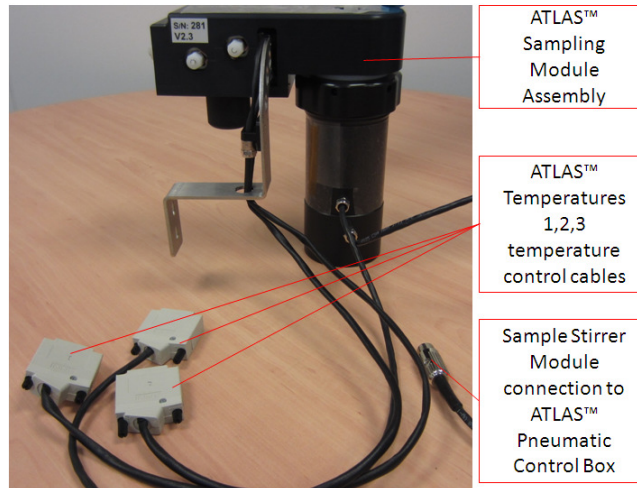

Figure 5 ATLAS™ Sampling Module Assembly back view
- The ATLAS™ Sampling Module Assembly (Figure 5) with Swagelok® fittings capped off to avoid dust contamination during transportation.